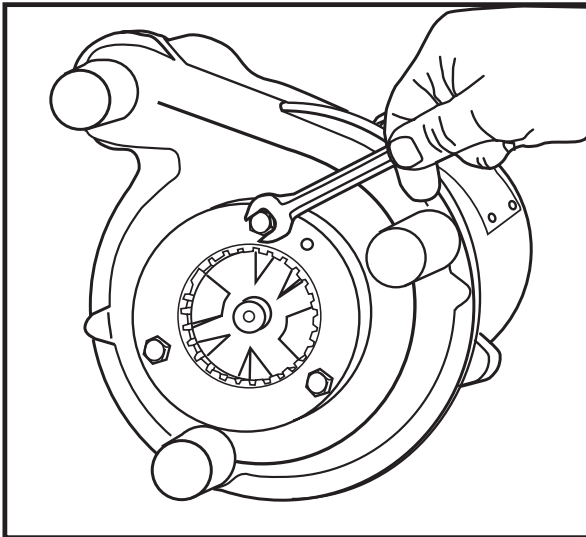

Fig. 3
2. Remove three screws from grinder ring flange. Grinder ring is pressed into flange for easy removal. See Figure 3.